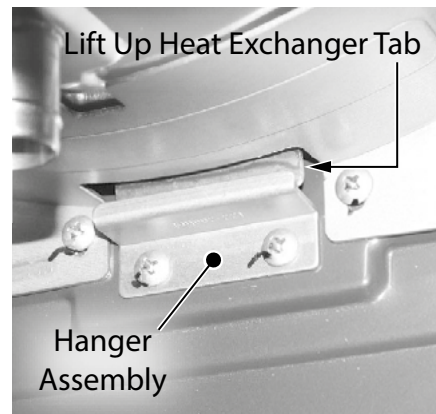

Figure 22 - Heat exchanger tab and hanger (bottom side of heat exchanger)
- 47 Remove the top two (2) screws from install bracket. Allow heat exchanger to lean slightly forward. Lift up to remove heat exchanger tab from hanger assembly and remove heat exchanger from water heater. See Figures 22 & 23 for reference.